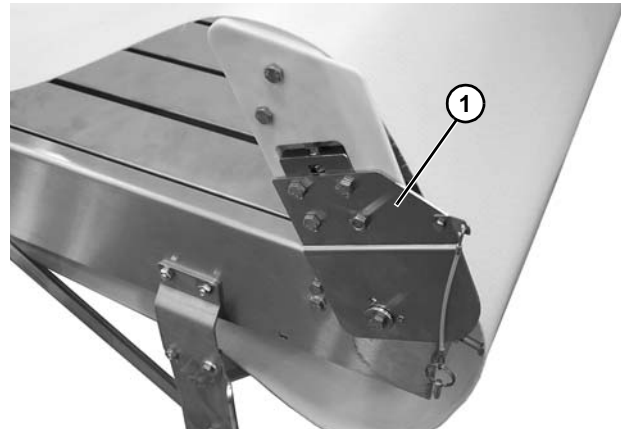

Figure 96
2. Tip up tail (Figure 96, item 1).